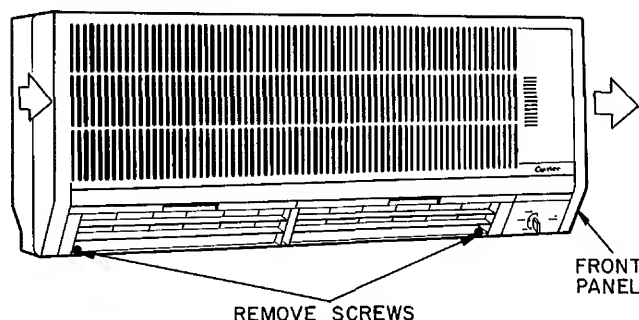

Fig. 9 — Removing Front Panel
4. Remove front panel of indoor fan coil by removing screws along bottom of air discharge grille and pulling straight out and up. Save screws for reassembly. See Fig. 9.